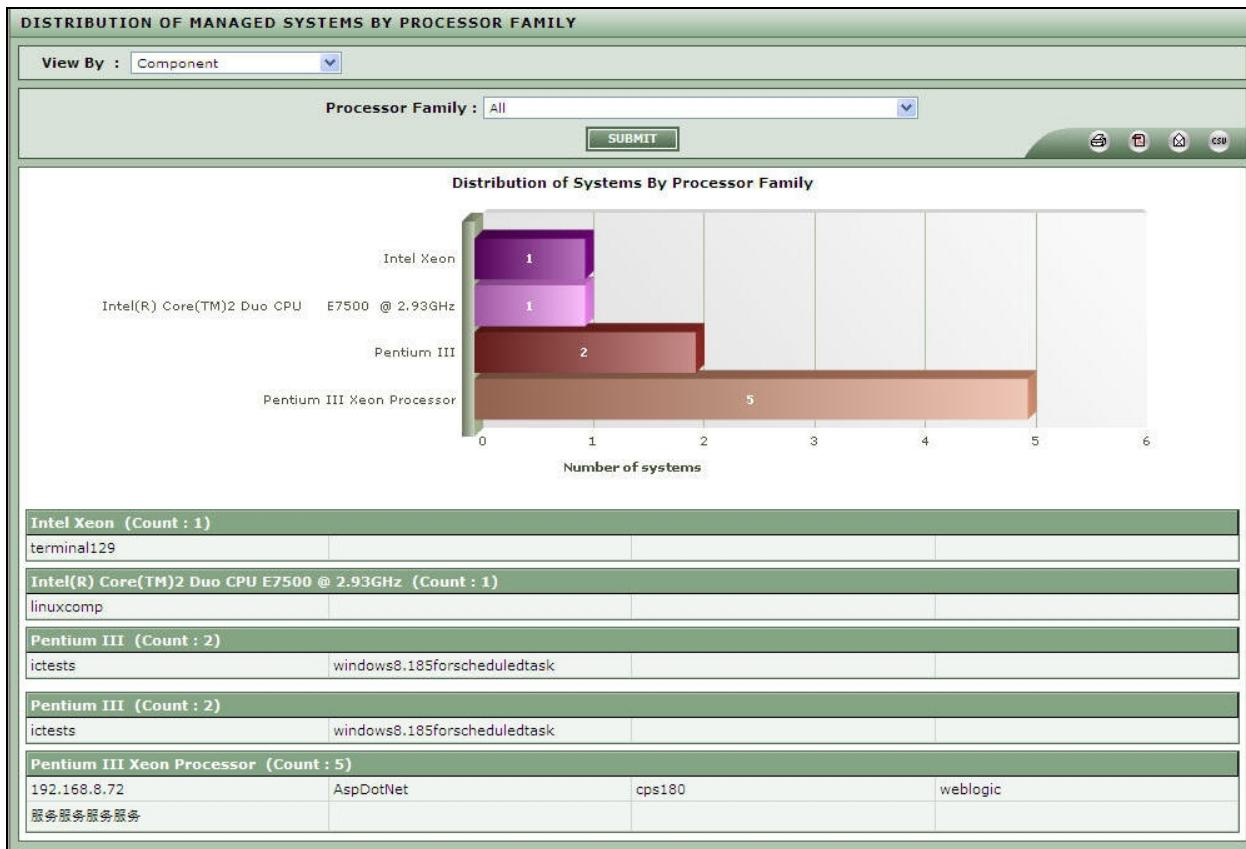

Figure 2.22: Distribution of systems across the processor families
- Select **All** option from the **Processor Family** list box as depicted in Figure 2.22. If multiple processors are in use in your environment, then, the **All** option will be chosen here by default. If only a single processor is in use across the environment, then that processor's name will be displayed here by default.